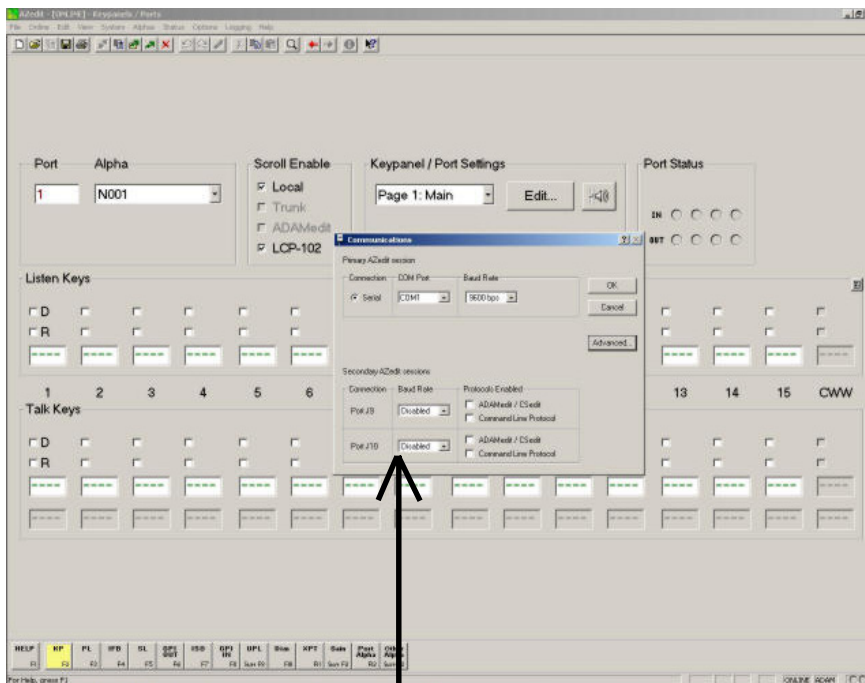

Figure 2 J9 & J10 are in reality J7 & J8 on ADAM controller breakout panel
- Then Communication screen (see Figure 2.), Secondary AZedit Sessions J9/J10